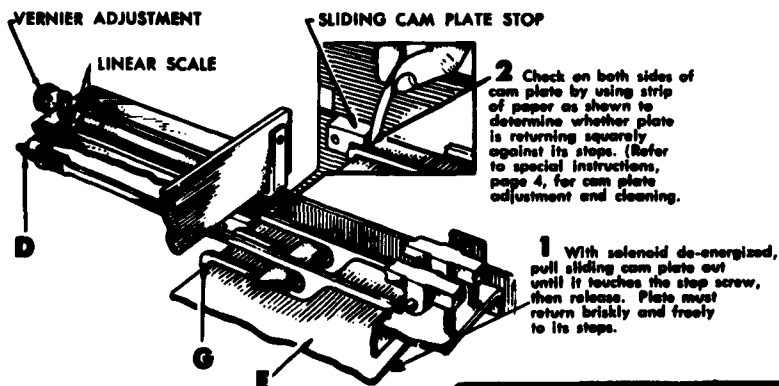

Figure 8
- Turn vernier knob back toward "0". Trip lever should drop off edge of plate 1 to 1½ vernier scale divisions before "0". (The 1 to 1½ division setting from "0" is to compensate for delay error in starting plate at beginning of timing cycle). If correction is required, turn nut D (Fig. 8) to advance or retard trip bar G in relation to time setting.
1. The side plates containing the channels in which the plate E, Fig. 8, slides may have been shifted by rough handling causing the plate to bind. When it is in its top position, you should be able to shift it laterally a few thousandths of an inch if it has sufficient side clearance. Pull the plate to its bottom position and check for side clearance again. If it is tight in either position, loosen side plate mounting screws in bottom plate. Top side plate outward lightly and retighten screws.